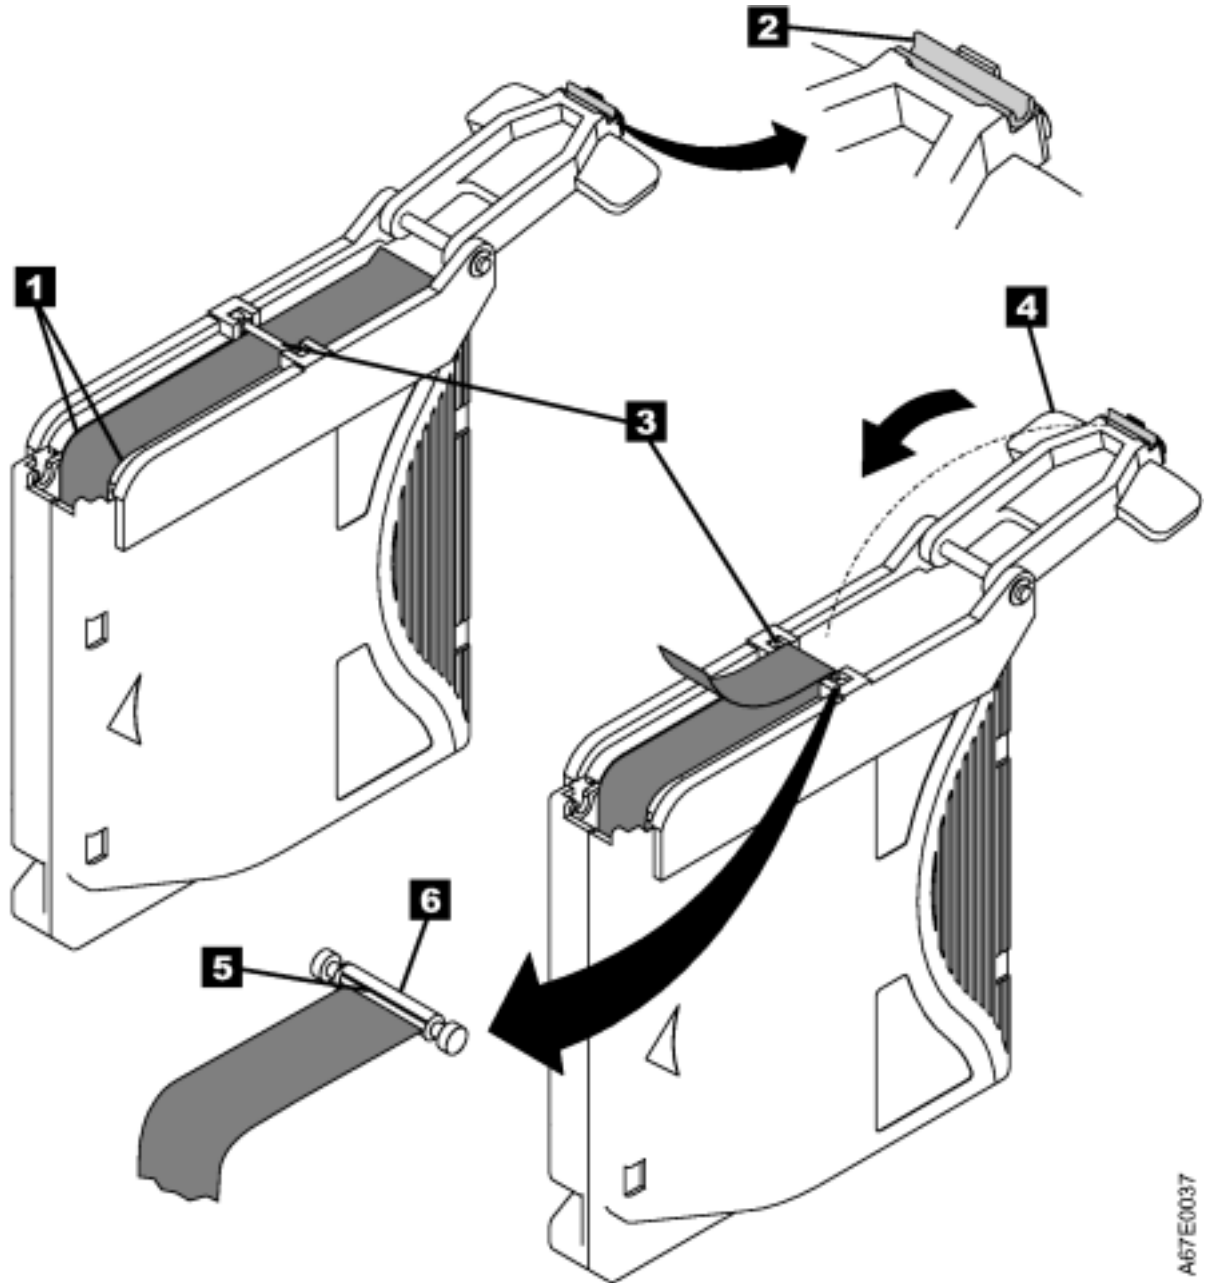

Figure 42. Attaching the leader pin to the tape
7. Position the tape in the alignment groove of the leader pin attach tool (see 1 in Figure 42 on page 134).
8. Place a new C-clip into the retention groove (2) on the leader pin attachment tool and make sure that the clip's open side faces up.
9. Place the leader pin (from step "6" on page 133) into the cavity (3) of the leader pin attach tool.
Fold the tape over the leader pin and hold it with your fingers (see Figure 42 on page 134).